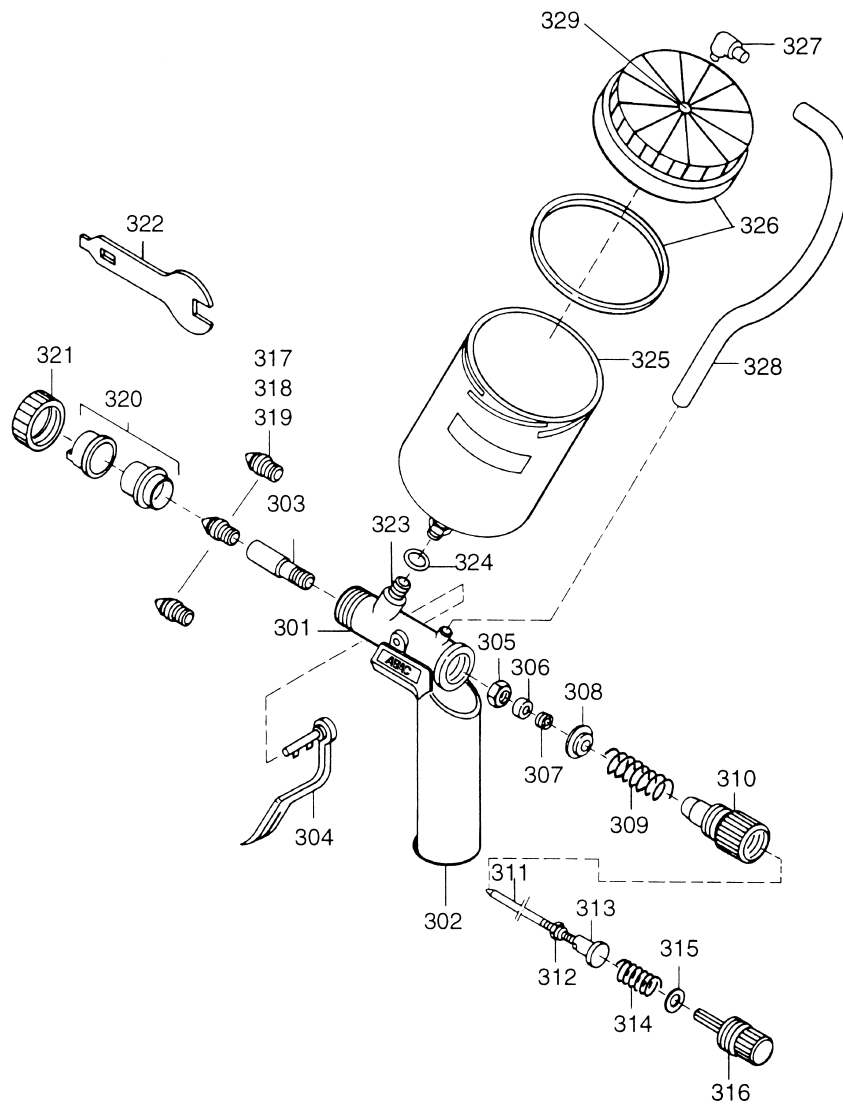
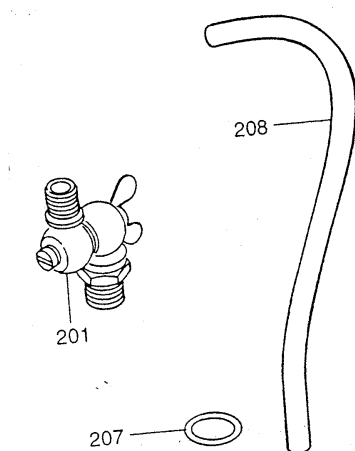
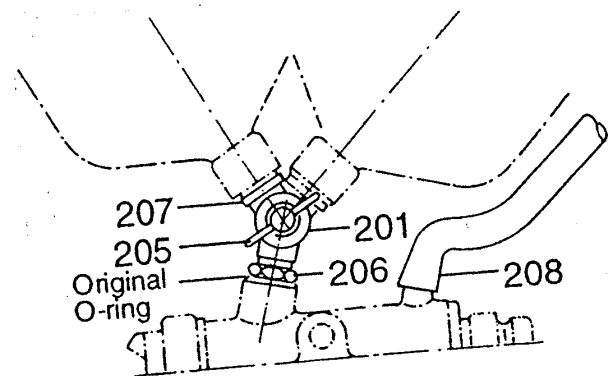
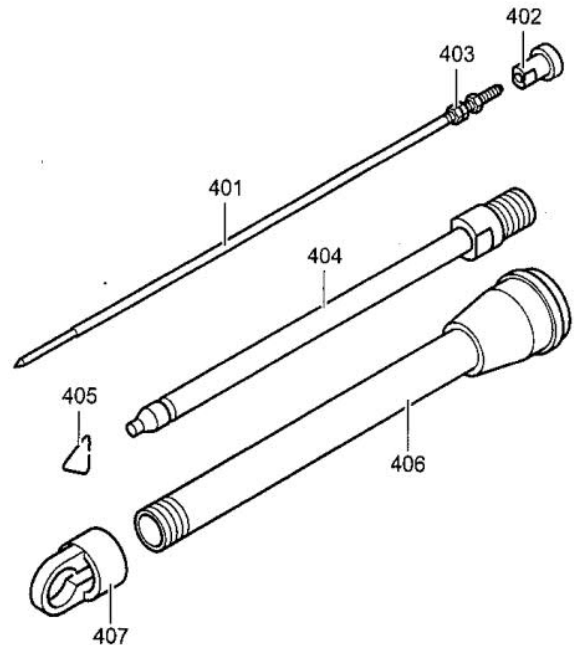

Figure 3
Figure 4
Figure 5
Figure 6
<ul style="list-style-type: none"> • Setting nut (Fig.3, item 312) on nozzle needle has gone out of adjustment 	<ul style="list-style-type: none"> • Unscrew the setting nut on the nozzle needle until there is adequate clearance
Spare Parts List for **ABAC** PN 1 Spray Gun (Identification number BJ 381 000 0021) (Figure 3)
Spare Parts List for **ABAC** PN 1A Spray Gun (Identification number BJ 381 000 0020) (Figure 3)
Flexible joint (Fig.4, 5)
Extension pipe, spraying at right angles (Fig.6)
12.1 Flexible joint between gun housing and paint container (Fig. 4 and 5)
To spray upwards whilst keeping the paint container vertical, use the flexible joint (Fig. 4, item 201) available as a special accessory.
- 1) First, withdraw the angle-piece (Fig. 3, item 327) from the paint container lid and dismantle the pressure hose (Fig. 3, item 328). Then pull the pressure hose off the spray gun (Fig. 3, item 301) and replace it with the longer pressure hose (Figs. 4 and 5, item 208).
- 2) Unscrew the paint container (Fig. 3, item 325) and the brass adapter (Fig. 3, item 323), using the nozzle spanner. Remove the O-Ring (Fig. 3, item 324) from the adapter.
- 3) Remove the hexagonal nut (Fig. 5, item 206) and the O-Ring (Figs. 4 and 5, item 207) from the flexible joint. Screw the hexagonal nut back on to the flexible joint thread. Then add the O – Ring (Fig. 3, item 324) and screw the flexible joint together with hexagonal nut and O-ring on to the gun body. Align flexible joint and tighten hexagonal nut (Fig. 5, item 206). Place the other O – Ring (Fig. 5, item 207) on the upper thread of the flexible joint, then screw the paint container on again and tighten.
- 4) Finally, screw the angle-piece (Fig. 3, item 327) into the paint container lid, attach the longer pressure hose (Fig. 4, item 208) to the spray gun housing and the angle-piece.
Attention! The wing-nut (Fig. 5, item 205) should be tightened only gently, so that the container still be moved.
12.2 Extension pipe for spraying points that are not readily accessible (Fig. 6)
1) Unscrew the nozzle coupling nut (Fig.3, item 321) from the **ABAC** Spray Gun PN 1 / PN 1A. Now remove the air head (Fig.3, item 320) and nozzle (Fig.3, items 317, 318, 319). Then dismantle the nozzle needle as described in section 8.3.
2) Insert the nozzle needle (Fig.6, item 401) in the spring bushing (Fig.3, item 310). Insert the pressure spring (Fig.3, item 314) and the shim (Fig. 3, item 315), and then screw the setting screw (Fig. 3, no3. 316) into the spring bushing (Fig.3, item 310). The parts assembled in this manner are now inserted into the spray gun housing.
3) Screw in the nozzle tube (Fig.6, item 404) in place of the normal nozzle and tighten slightly.
4) Insert the attachment lance (Fig.6, item 406) with released nozzle attachment piece (Fig.6, item 407) into the spray gun housing and tighten slightly with the coupling nut (Fig.3, item 321). Tighten the nozzle attachment piece (Fig.6, item 407) slightly so that it can still be turned to any required position for spraying.
5) After reassembly, the trigger (Fig.3, item 304) should still have a slight measure of play. It must not be in contact with the front of the spray gun housing, otherwise the nozzle needle will not close tightly. The measure of play can be increased by readjusting the self-locking hexagonal nut (Fig.6, item 403) on the nozzle needle.